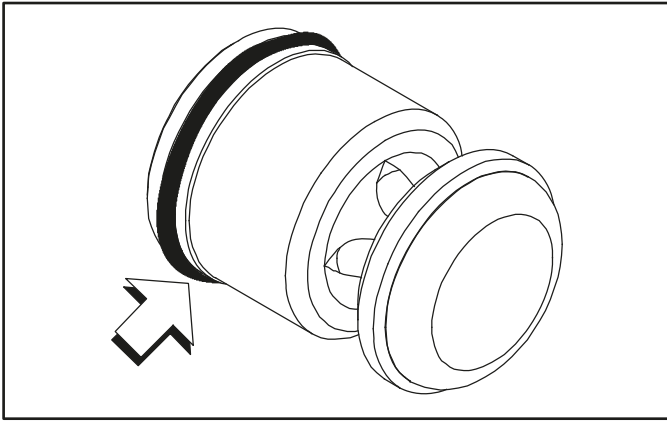

Figure 6-23
2. Assemble the piston. Slide the red O-ring into the groove of the piston. **Do not** lubricate the O-ring. (See Figure 6-23.)